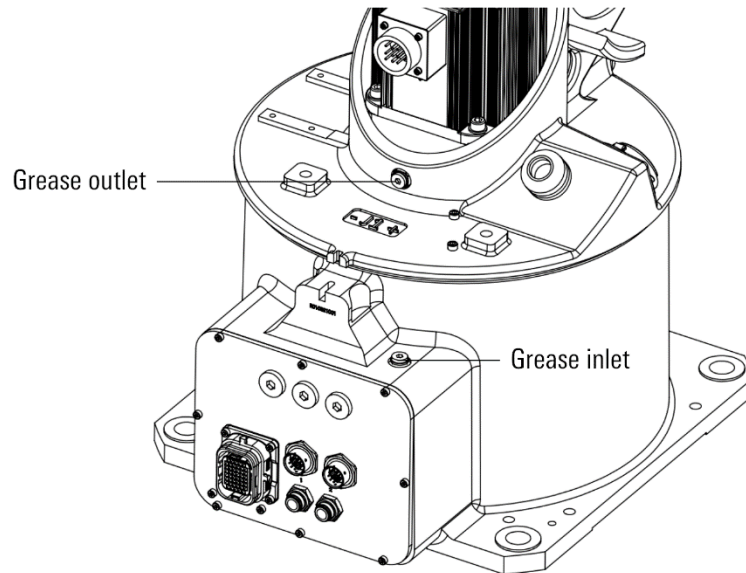

Figure 12-6 Replace the lubricating grease of the reducer of the J1 axis
- Step4. Remove the M10x1 plug of grease discharge port, as shown in Figure 12-6.